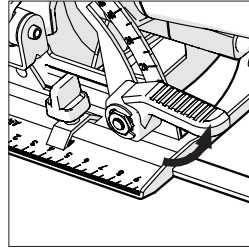

Fig. 13
- Loosen the Bevel Locking Mechanism found at the front of the machine, by pulling the lever upwards. (Fig. 13)